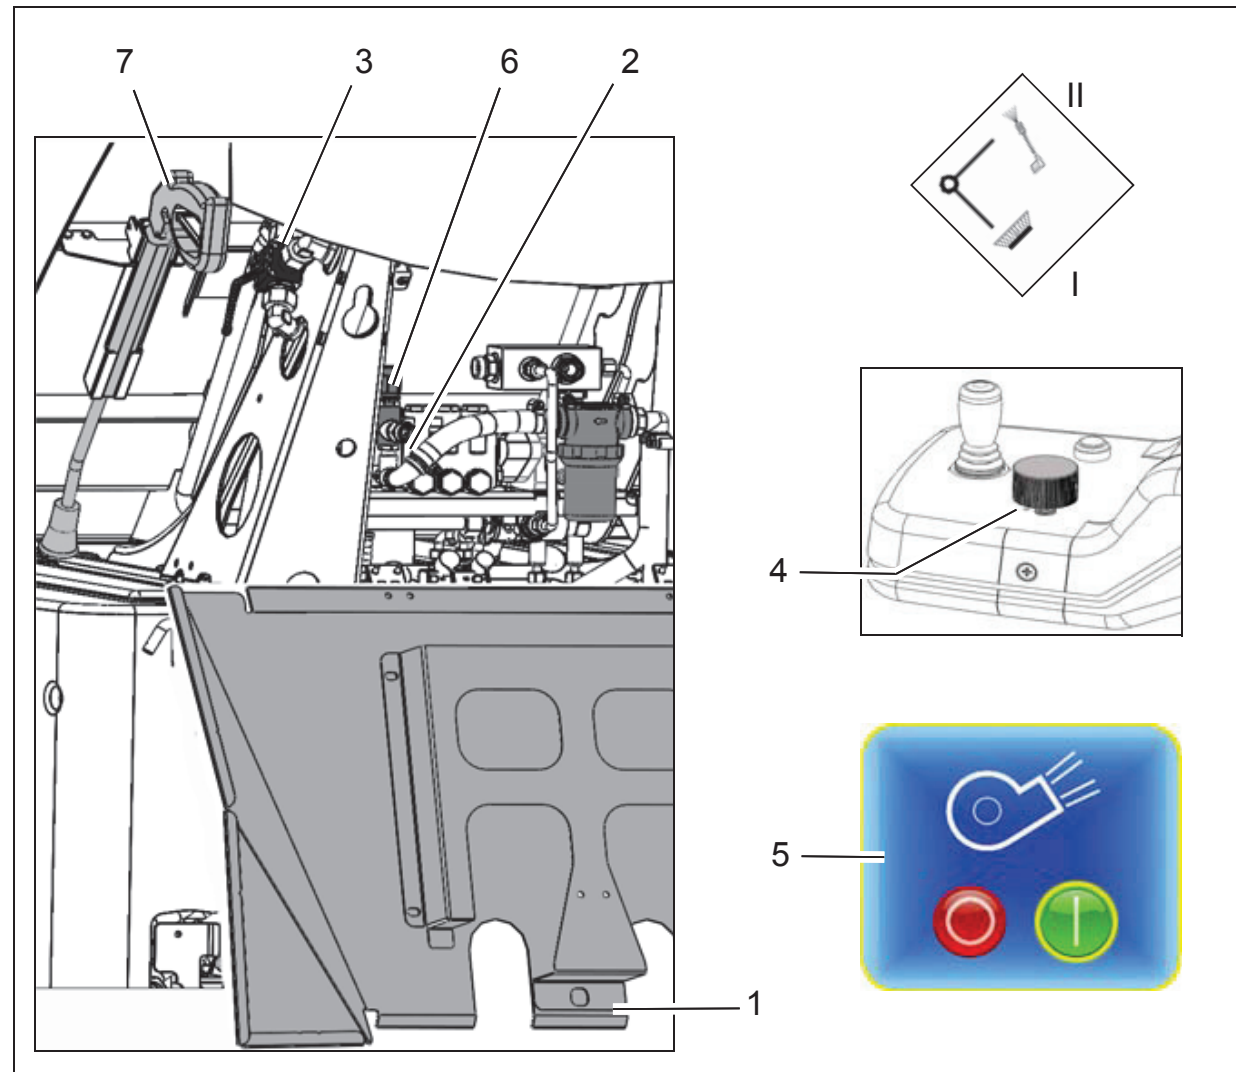

Fig.8
1. Open the rear flap (Fig. 8/1) of the dirt hopper.
2. Remove the pressure hose from the hose holder and plug it into the connection (Fig. 8/2).
3. Set the changeover valve (Fig. 8/3) to the high-pressure cleaner position.
4. Select the working menu in the multifunctional display with the turn-push knob (Fig. 8/4) and set the speed for the hydraulic supply in the suction fan menu item (Fig. 8/5)
5. The pressure controller (Fig. 8/6) is preset to 120 bar.
6. Clean the surface with the lance (Fig. 8/7).